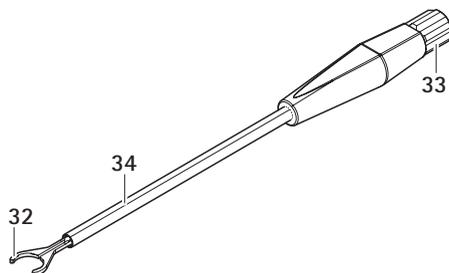

Fig. 9 Assembling revision instrument for PE inlay
- ▶ Insert the jaw piece **32** into the tubular shaft **34** of the revision instrument until it engages, see Fig. 9. When doing so, ensure that the "caudal" marking on the tubular shaft is aligned with the edge of the jaw piece **31**.